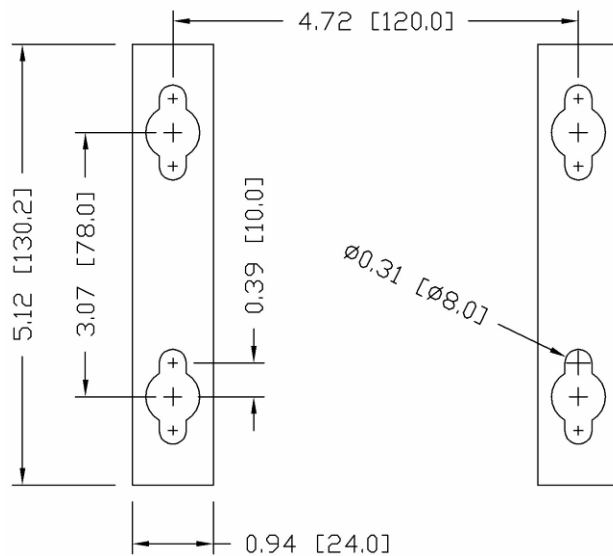

Figure 2-10: Mounting Hole Pattern
4. Mark the position of the mounting holes on the vertical surface per the dimensions shown in Figure 2-10 or by holding the terminal up to the surface and marking through the bracket holes.